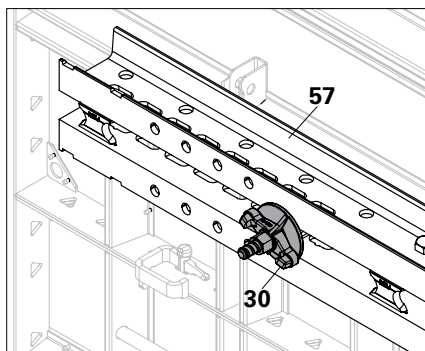

Fig. A4.25a
2. Install the SRZ/SRU waler (57) through the waler hook HSA (56). (Fig. A4.25a)
3. Tighten the waler hook HSA (56) with wingnut counterplate DW 15 (30). (Fig. A4.25a)